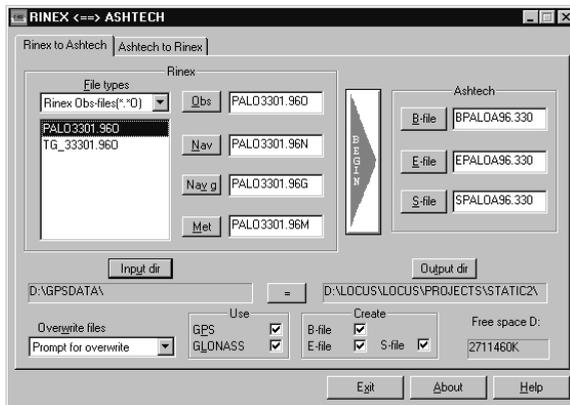

Figure B.3. Rinex-to-Ashtech Dialog Box with Suggested Output File Names
3. The **Set Input** directory dialog box closes. The **Input Directory** list lists the directory path, and the **Available Files** list lists the RINEX files in the input directory (Figure B.3).